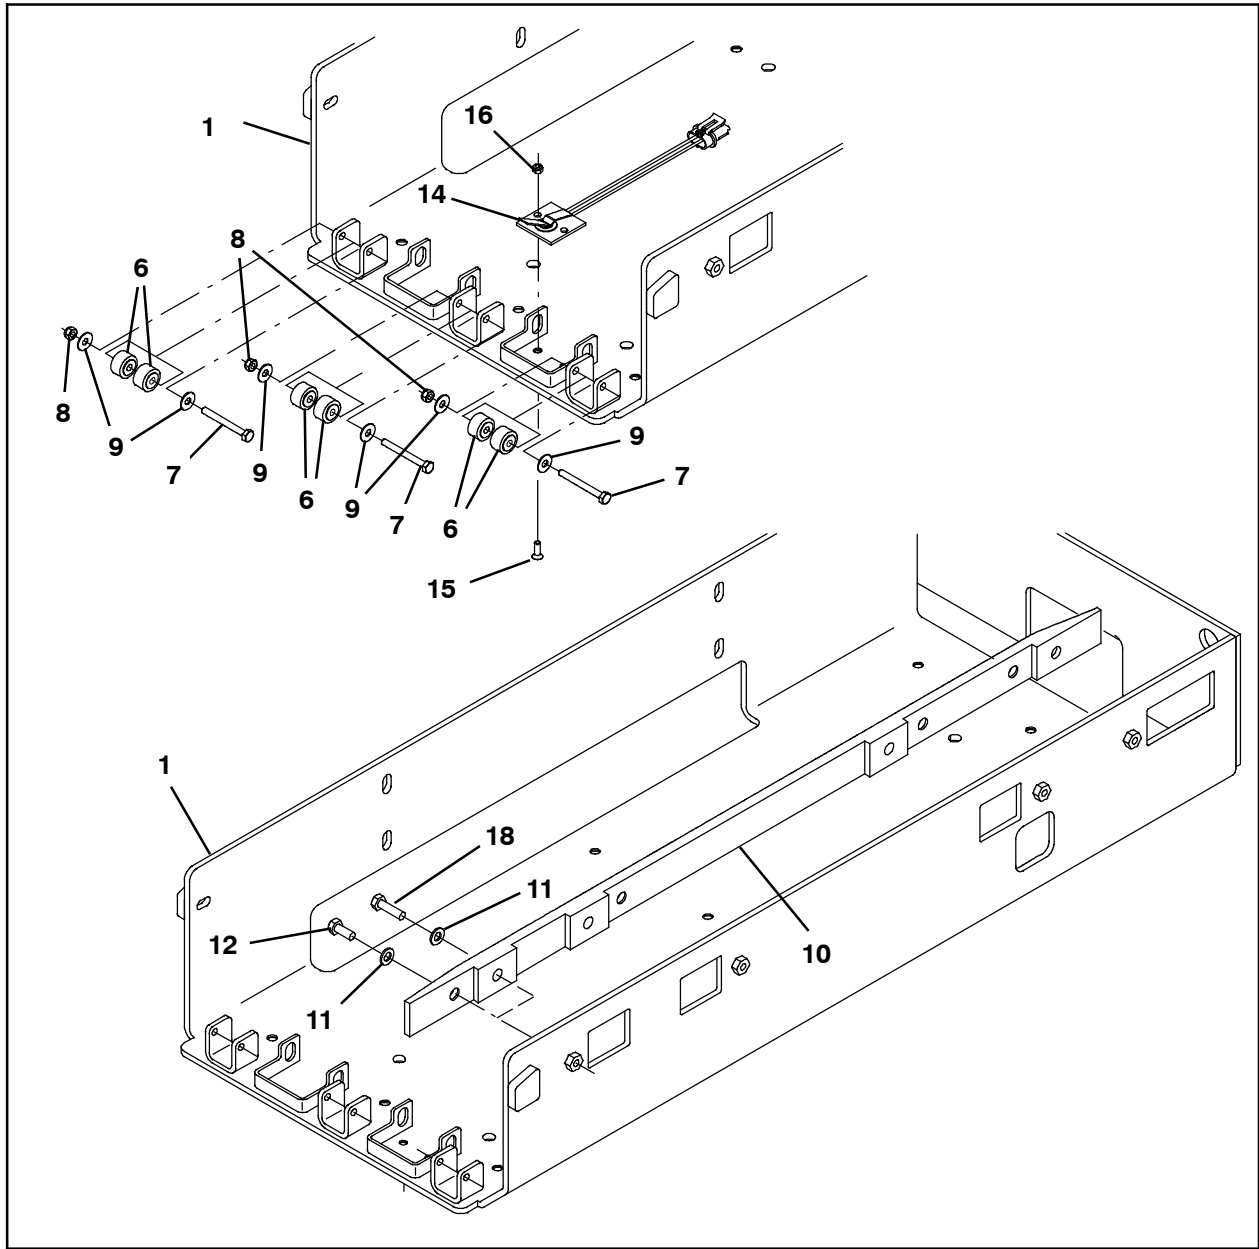

FIG. 1
*NOTE: The rollout battery channel (1) weighs approximately 85 lbs (39 kg). Assistance is required for lifting the rollout battery channel. **Do Not** attempt to lift the rollout battery channel without assistance.*
1. Use a M6 hex screw (7), two flat washers (9), and a M6 hex nut (8) to install each of the three pairs of needle bearings (6) onto the rollout battery channel (1). (Fig. 1)
2. Use one M5 socket screw (15) and one M5 hex nut (16) to install the limit switch (14) onto the rollout battery channel (1). (Fig. 1)
3. **Machines equipped with the standard sized battery:** Use four M8 hex screws (12) and four flat washers (11) to install the guide plate (10) into the rollout battery channel (1). (Fig. 1)
- Machines equipped with a smaller sized battery:** Use four M8 hex screws (18) and four flat washers (11) to install the guide plate (10) into the rollout battery channel (1). (Fig. 1)